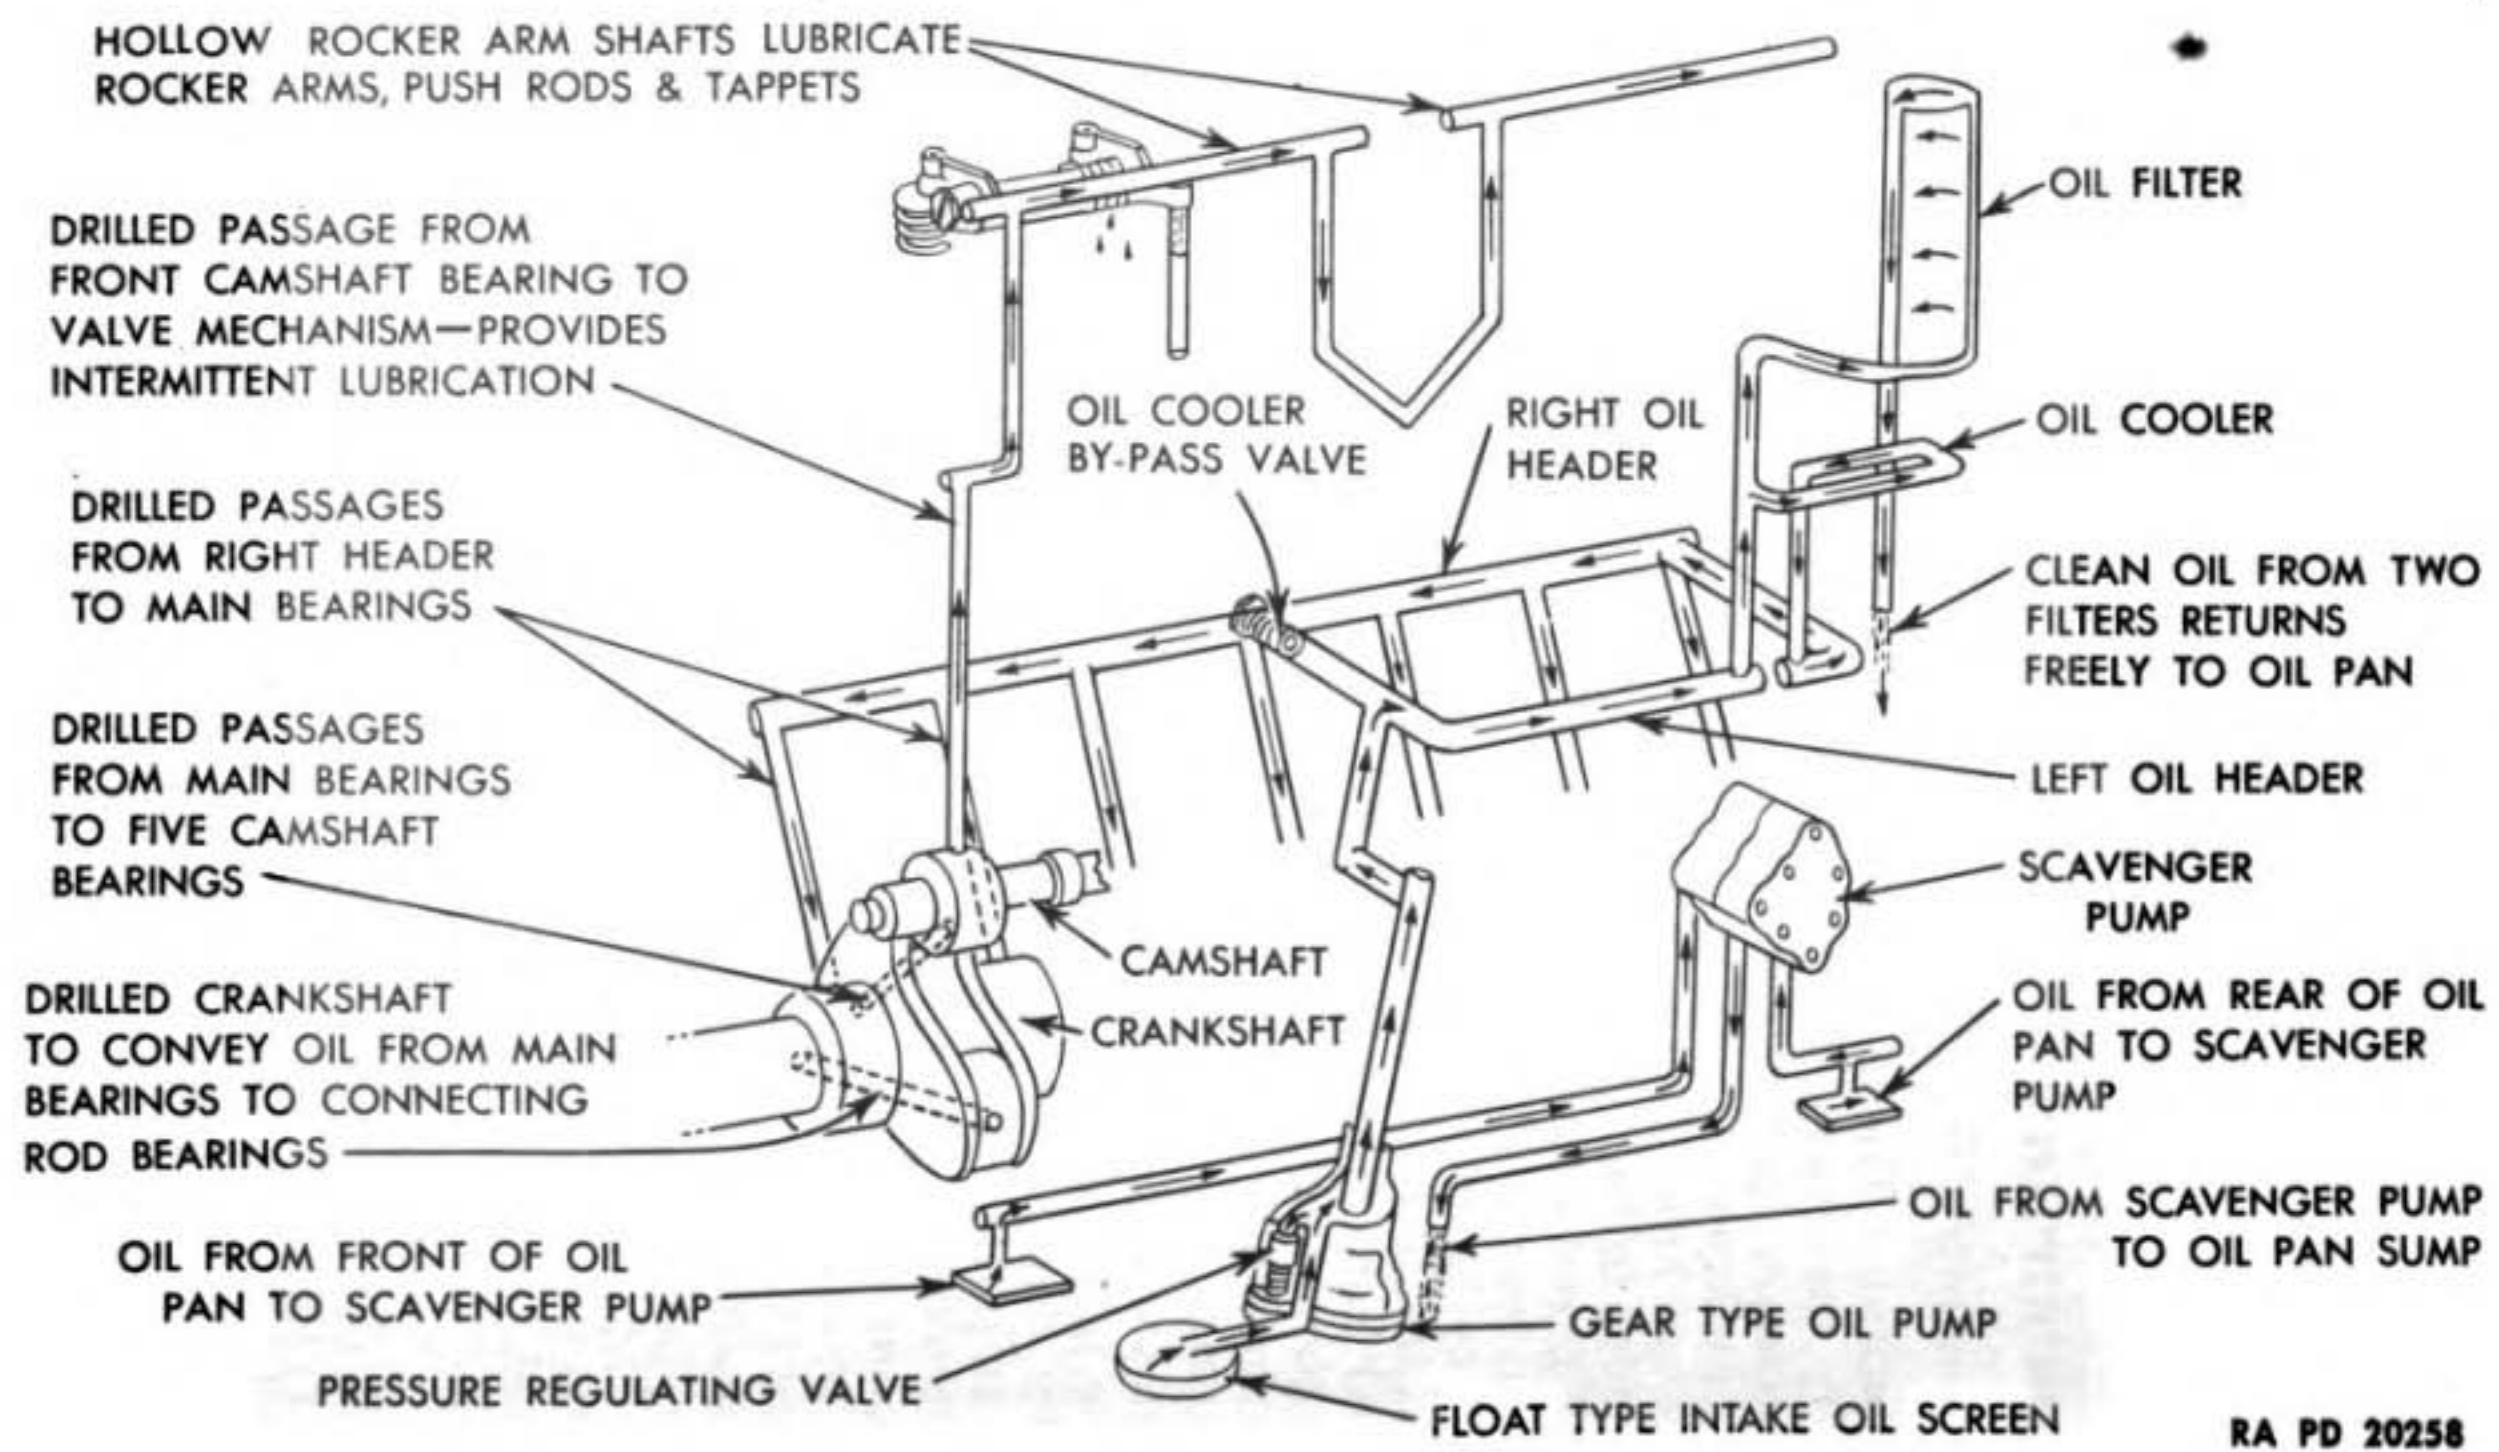

Figure 125 — Engine Lubrication Diagram
a. Description (fig. 125).
(5) Replacement, removal and installation of scavenger oil pump, oil cooler, and oil filters are described in TM 9-786.